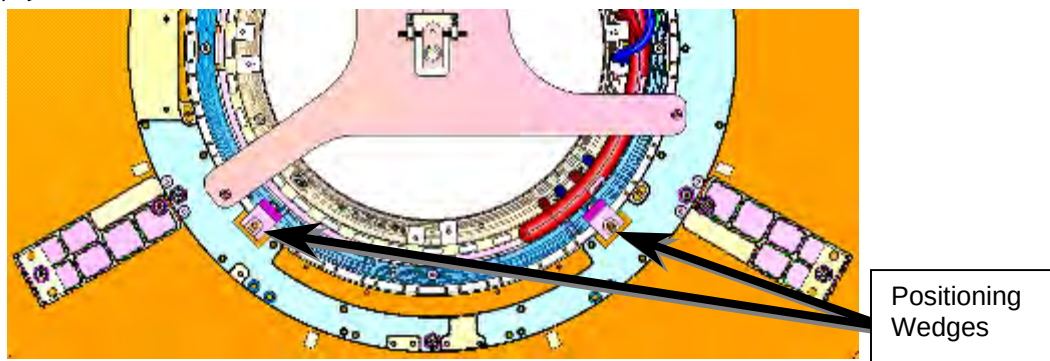

Figure 45 - Service-end positioning wedges
- A. Attach the 135° and 225° XRMB Wedges (5154485) to the service-end magnet flange using 1 (one) M10x30 brass bolt (5110638-64) and 2 (two) G10 flat washers (5146169). **(FIG 45)** These two wedges will serve as the positioning blocks for XRMB longitudinal (Z axis) alignment. To allow future adjustment, tighten the bolt only enough to secure the wedges. Do not apply loctite at this moment.